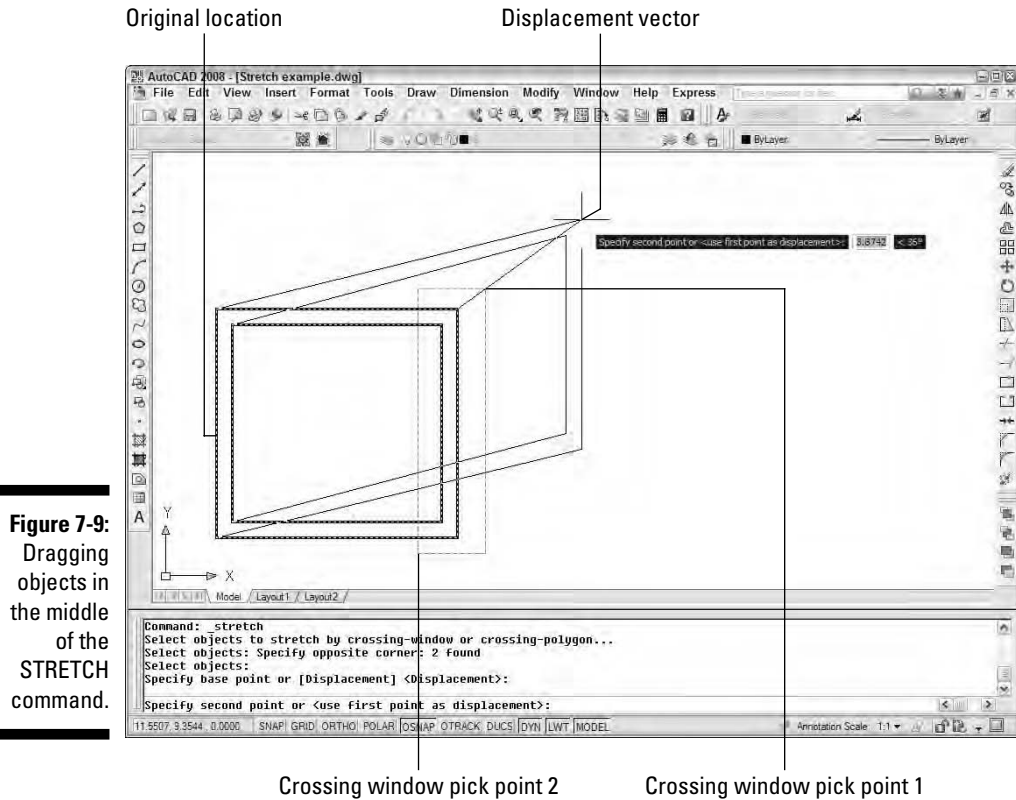

Figure 7-9:
- 1. Draw some lines in an arrangement similar to the dark lines shown in Figure 7-9.**
Figure 7-9 shows a sample crossing selection box that completely encloses the two vertical lines on the right side of the figure. This crossing selection box cuts through the four horizontal lines, enclosing only one endpoint of each.
Figure 7-9 shows what the screen looks like as you move the crosshairs around with ortho off.